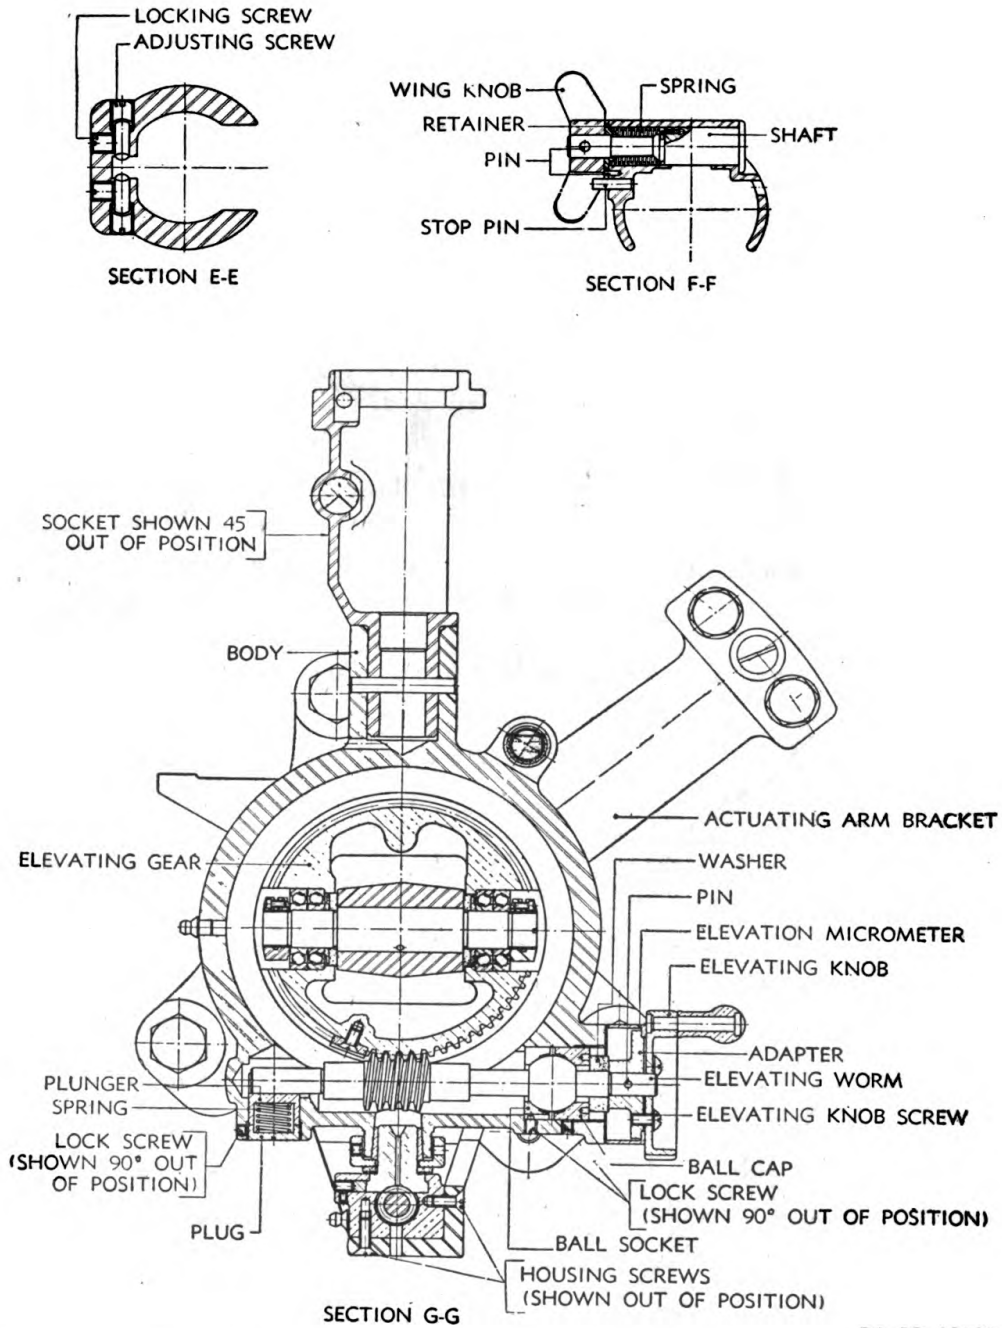

FIGURE 5.—Telescope mount M25—sections E-E, F-F, G-G.
c. Rotate the telescope retaining shaft (fig. 5, sec. F-F). Note the torsion in the torsion spring.